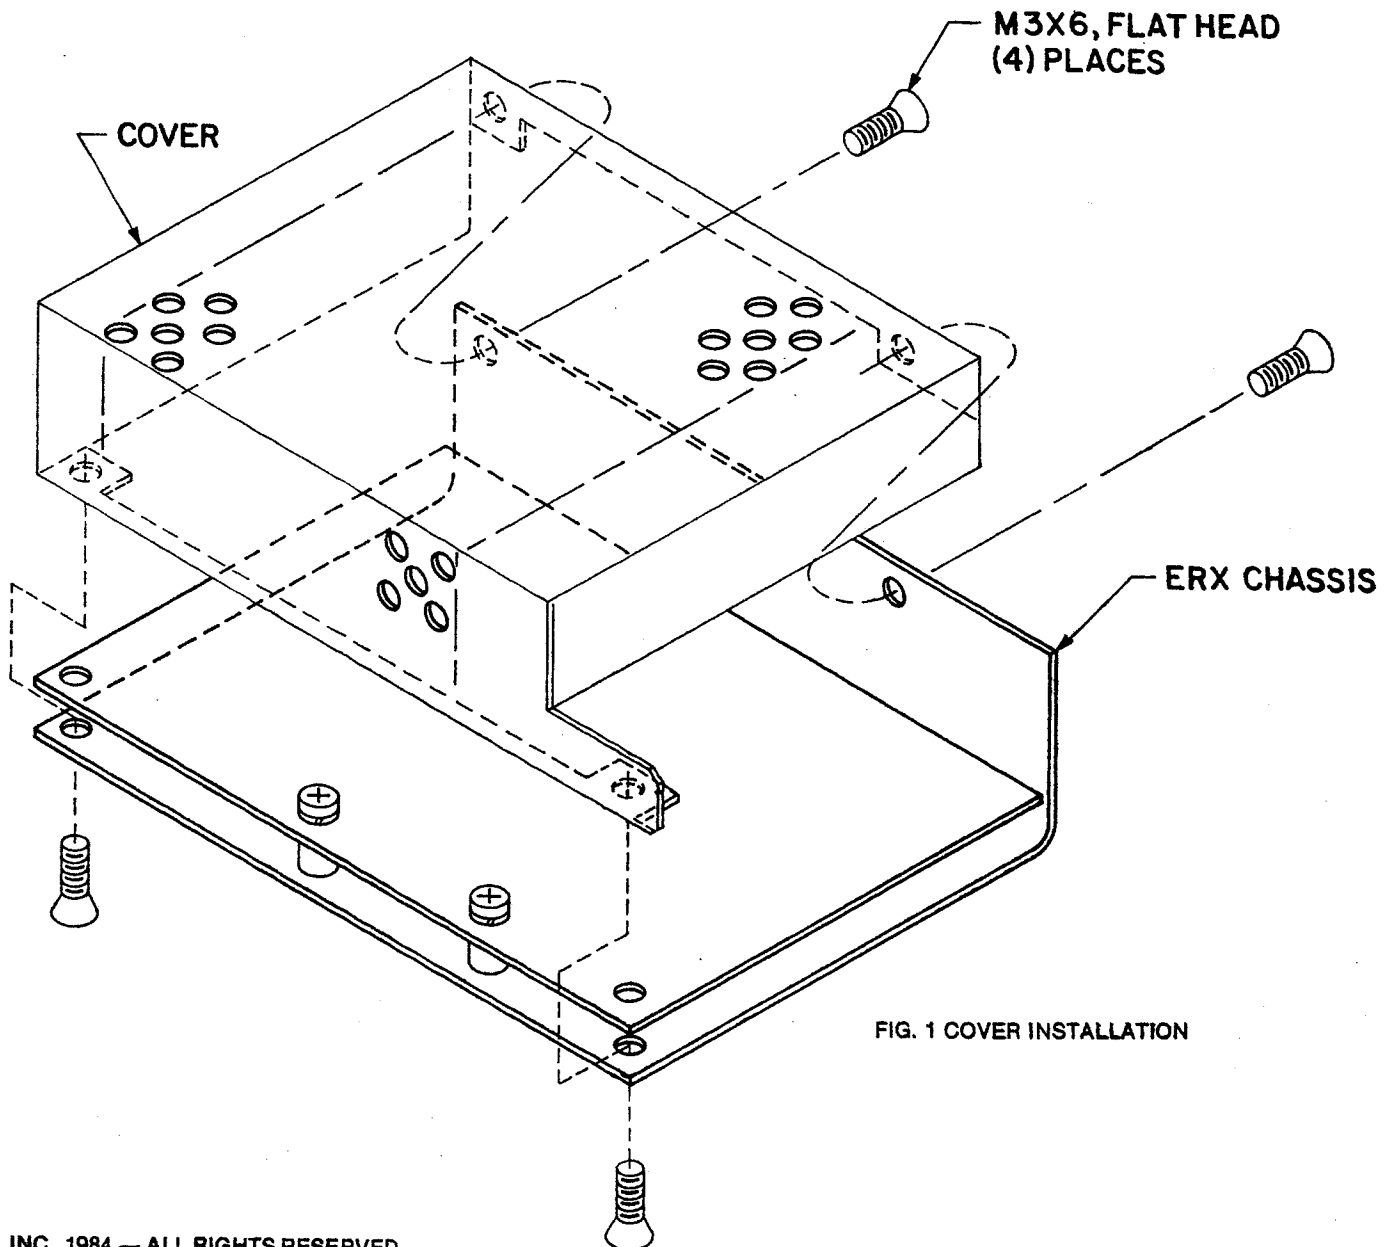

FIG. 1 COVER INSTALLATION
DESCRIPTION. The Kepco Model CA-16 COVER is designed to provide shielding and protection for the Kepco ERX 60W Series of switching power supplies. These finished steel covers have four (4) mounting threads and are easily installed, using the predrilled, counter-sunk mounting holes on the ERX chassis, as shown in FIG. 1.
- 1) Slip the cover over the ERX chassis as shown in FIG. 1.
- 2) Place the four (4) mounting screws, contained in the plastic bag delivered with the cover, through the counter-sunk holes in the ERX chassis and hand-tighten the screws.